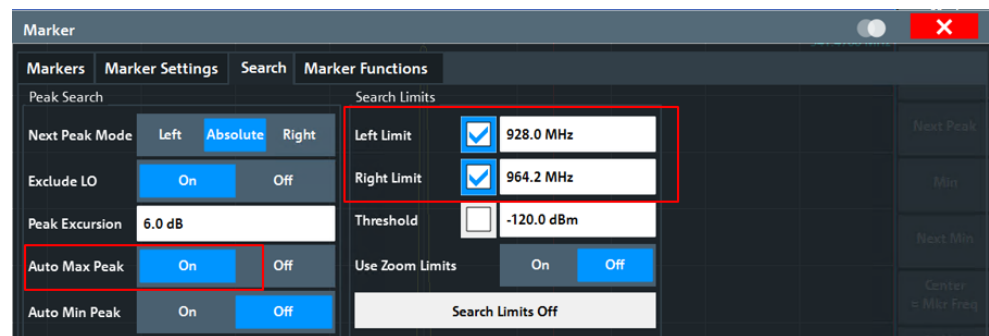

Figure 2-13: Definition of search range for maximum level value above ISM band
13. In the *Search* tab, define a range (upper edge of the ISM band) for the marker-to-peak search. Set the *Auto Max Peak* function to *On* (Figure 2-13)